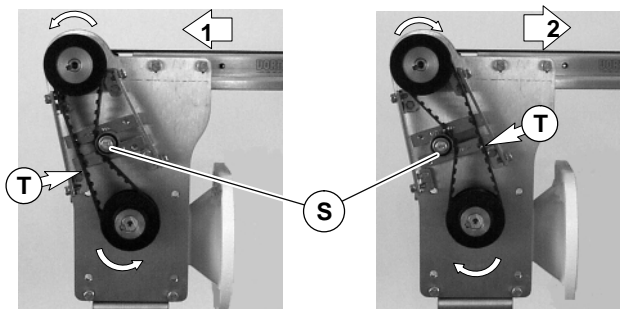

Figure 8
7. Depending on conveyor belt travel (1 or 2 of Figure 8), locate timing belt tensioner (S), as shown. Tension timing belt to obtain 3mm deflection for 4.3N of force at timing belt mid-point (T). Tighten tensioner to 51 Nm.